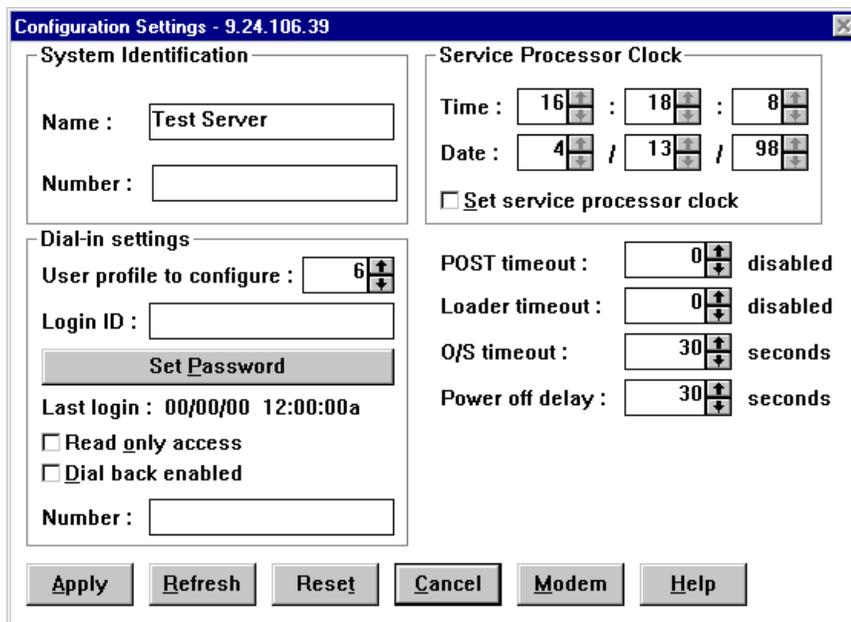

Figure 182. Configuration Settings
3. Double-click **Configuration Settings**. Figure 182 appears: